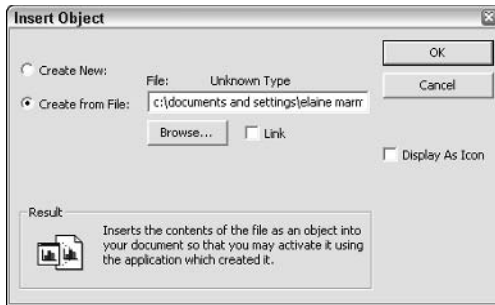

Figure 8-34: Select the file that you want to associate with a task.
3. Click the Insert Object button. The Insert Object dialog box appears, as shown in Figure 8-34.